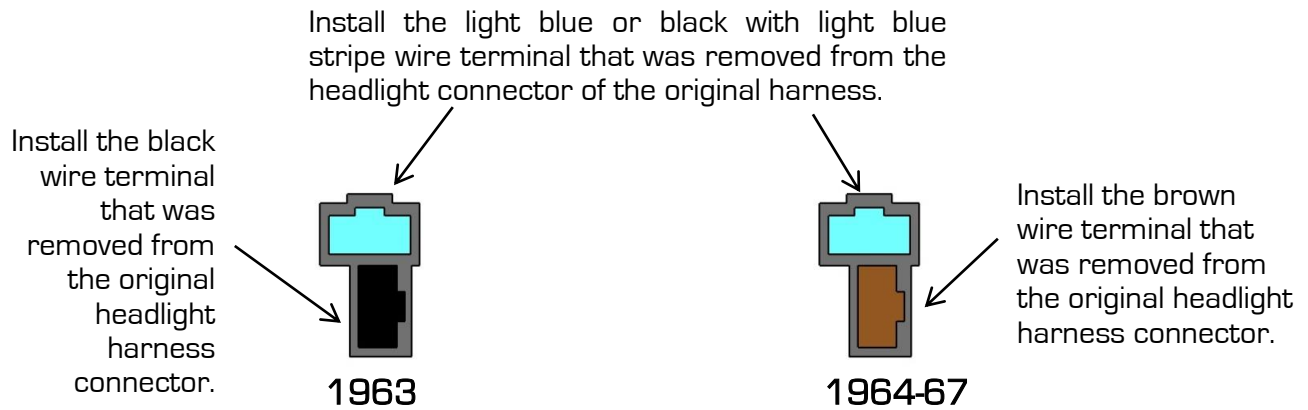

Figure 11 - End View (Harness Side)
17. Install the wire terminals which were just removed from the original headlight harness connector into the included black two terminal female Packard connector (Item 8) cavities as shown in Figure 11. Plug this connector into the white two-terminal connector on the new harness. Make sure that the wire colors correspond with each other (light blue or black with light blue stripe to light blue, brown or black to brown).